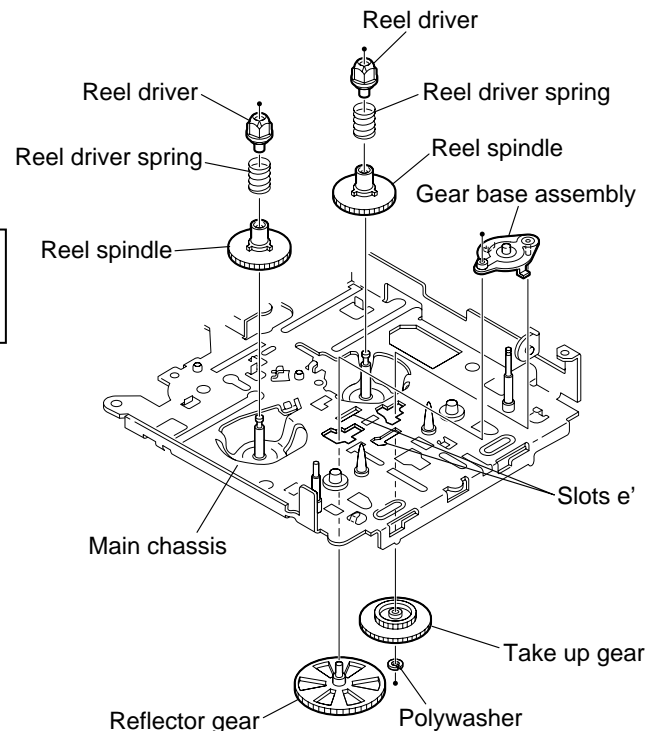

Fig.34
**■ Removing the reel driver / reel spindle (See Fig.34)**